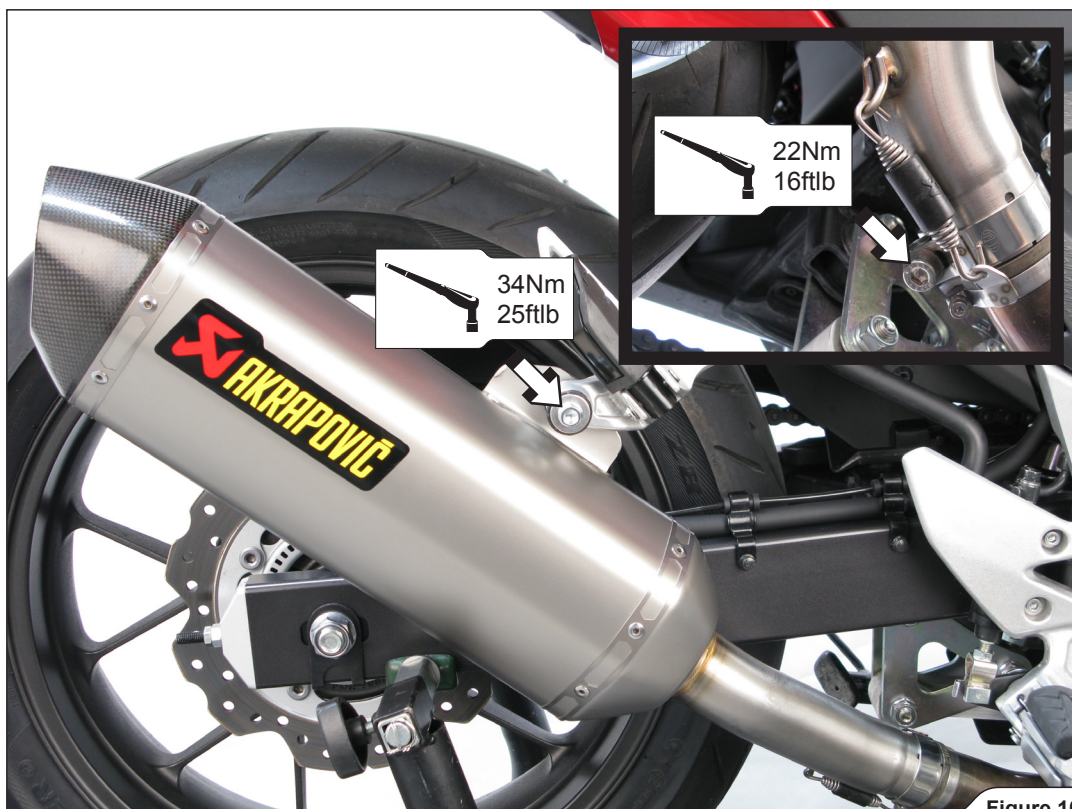

Figure 10
8. **For stainless steel muffler only:** align the muffler in respect to the motorcycle and tighten muffler bracket bolt and the metal clamp at the Akrapović muffler/stock header pipe joint to a specified torques (**Figure 10**).